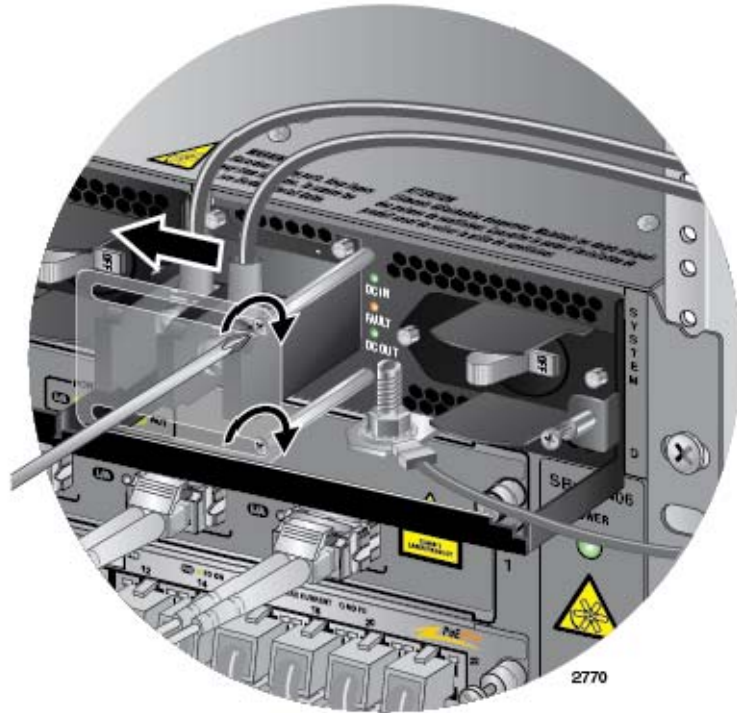

Figure 129. Closing the Plastic Cover over the Terminal Connectors
8. Slide the plastic cover to the left and lightly tighten the two screws with a #1 Phillips-head screwdriver to secure the cover. See Figure 129 on page 187. You might need to lift the locking handle slightly to access the bottom screw.
7. Slide the plastic cover to the left and lightly tighten the two screws with a #1 Phillips-head screwdriver to secure the cover. See Figure 129 on page 187. You might need to lift the locking handle slightly to access the bottom screw.